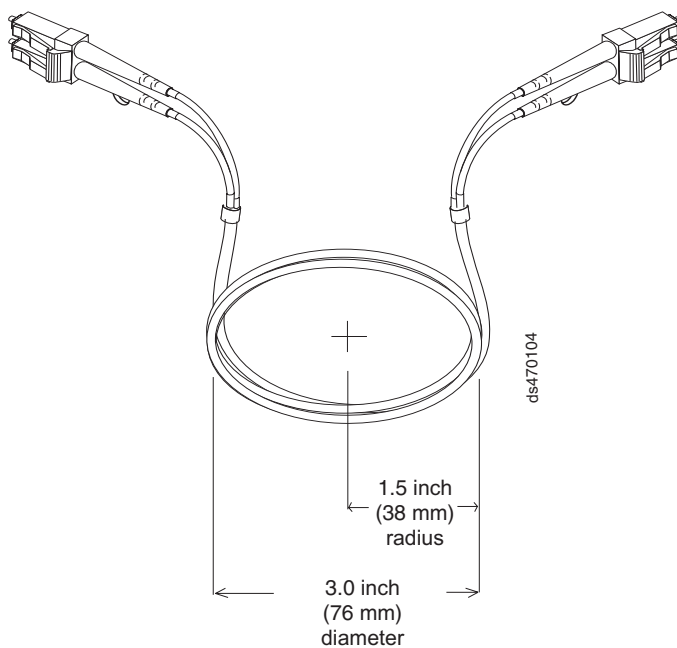

Figure 31. Recommended bending and looping specifications for fibre-optic cables
- When storing excess or unused fibre-optic cables, do not bend the cables to a diameter of less than 76 mm (3 in.), or a radius less than 38 mm (1.5 in.) or wrap them around themselves. See Figure 31 on page 53.